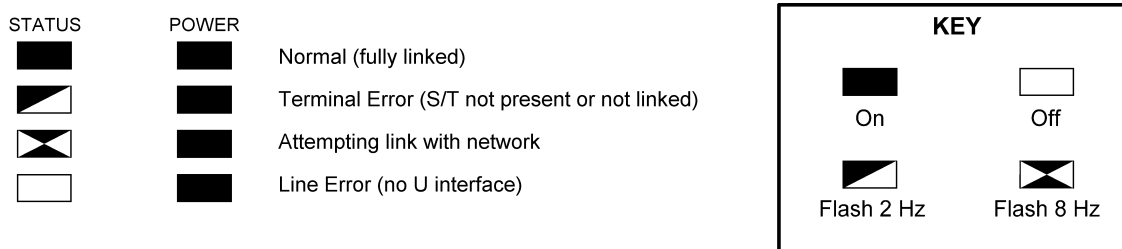

Figure 6
Possible malfunction of the NT1 is indicated by any status display other than those shown in Figure 6. Press the Reset button (located next to the Power indicator) momentarily to reset the NT1. This has the same effect as powering down, then powering up the NT1. If no improvement is obtained, contact Tone Commander Customer Service at (800) 524-0024.